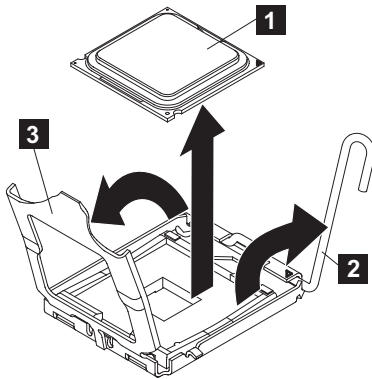

Figure 259. Opening the SAN Volume Controller 2145-CG8 or 2145-CF8 microprocessor-bracket frame
1. To open the socket in preparation for inserting the microprocessor, press down and out on the release lever ( **2** in Figure 259 as you did to remove the microprocessor, and lift up the microprocessor-release lever until it stops in the fully open position.